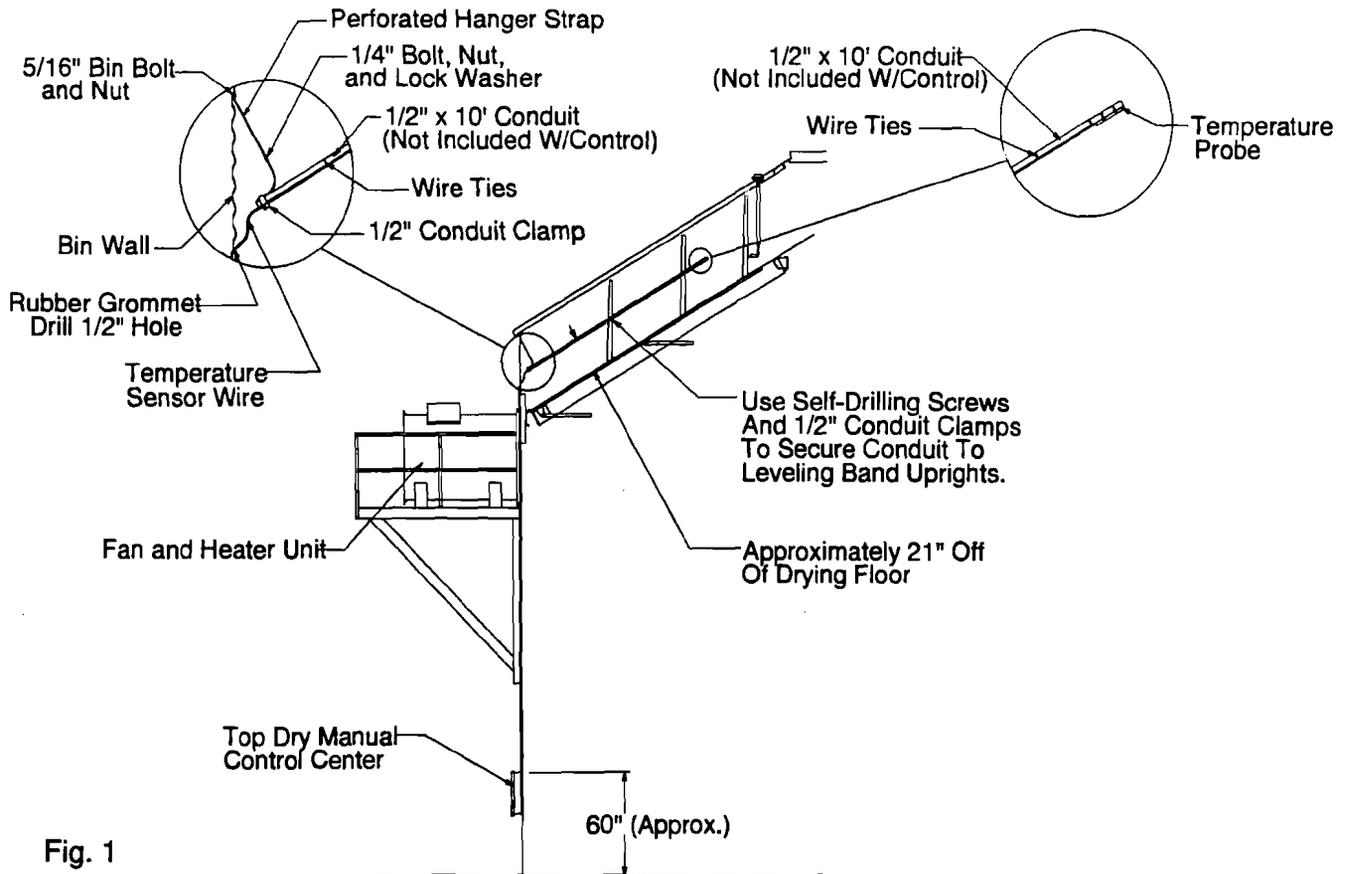

Fig. 1
1. Mount the Top Dry Manual Control Center on the side of the bin. Position the control center in a location that is approximately eye level and that will allow the operator to see the fan and heater unit start. Locate and drill the appropriate holes for mounting the control center. Mount the control center with four (4) 5/16" bin bolts and nuts provided.
2. Run two (2) 16 ga. wires (either use wires in conduit or use a 2 lead power cord) from the Top Dry Manual Control Center to the drying chamber. Connect the temperature probe to the two wires (one wire per probe lead) with the connectors provided. Mount the temperature probe assembly in the drying chamber in the Top Dry bin. See Fig. 1. Connect the wires to the thermostat with the one wire going to terminal 7 on terminal strip and the other wire going to terminal 8.
2. Run two (2) 16 ga. wires (either use wires in conduit or use a 2 lead power cord) from the Top Dry Manual Control Center to the drying chamber. Connect the temperature probe to the two wires (one wire per probe lead) with the connectors provided. Mount the temperature probe assembly in the drying chamber in the Top Dry bin. See Fig. 1. Connect the wires to the thermostat with the one wire going to terminal 7 on terminal strip and the other wire going to terminal 8. NOTE: The conduit should be mounted approximately 21" off of drying floor.
4. Run six (6) 16 ga. wires (either use wires in conduit or use a 6 lead power cord) from the Top Dry Manual Control Center to the Crop Dryer Unit #1. Connect the wires so that the terminal numbers 1 through 6 in the crop dryer box correspond with the terminal numbers 1 through 6 in the control center.
7. Run two (2) 16 ga. wires (either use wires in conduit or use a 2 lead power cord) from the Top Dry Manual Control Center to the second fan/heater.
12. Run nine (9) 16 ga. wires (either use wires in conduit or use a 9 lead power cord) from the first fan/heater to the second fan/heater.